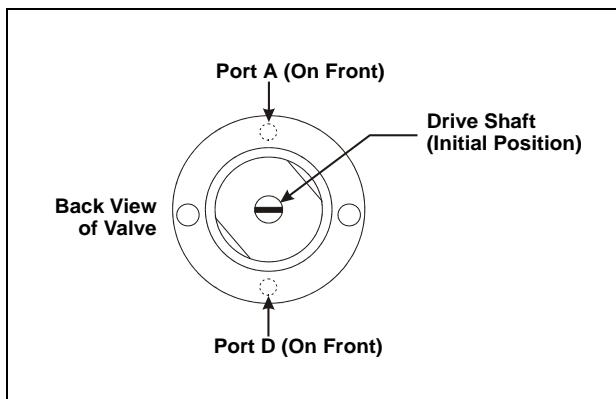

*Figure 5-22. Sample Syringe Drive Shaft Initial Position*
3. When the valve is removed, the syringe drive shaft is visible. When the syringe is in the initial position (the position selected when the valve was removed), the slot in the drive shaft should be horizontal (see Figure 5-22).